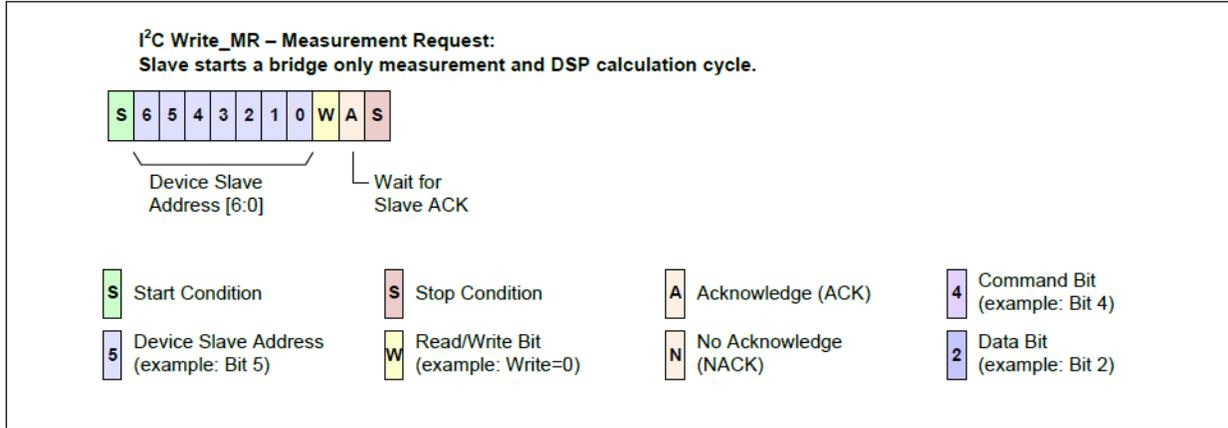

Figure 3-6: Write Measurement Request Bitmap
Write\_MR is a special I2C write operation, which only includes the 7-bit slave address and the WRITE bit (0). This command can only be sent in Sleep Mode (see section 3.1.2). It wakes up the part and starts a measurement cycle for the bridge values **only** (no special measurement) and a DSP calculation based on former AZ and Temperature values. After finishing the calculation with valid results written to the digital register, the ZSC31014 powers down again and a Read\_DF (see section 3.1.3) is required to read the valid values. See Figure 3-6 for an illustration of Write\_MR. The I2C Write\_MR function can also be accomplished using the I2C WRITE command with “don’t care” data in Sleep Mode.